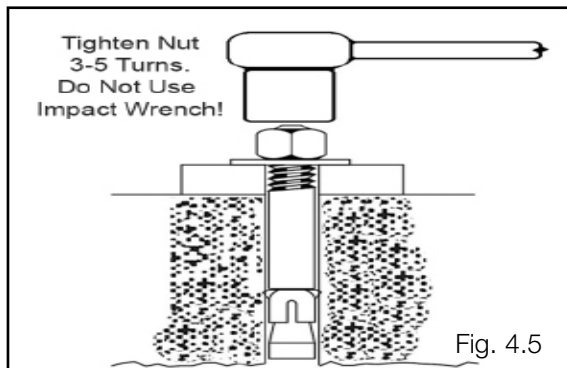

Fig. 4.5
6. After any necessary Shims are installed, tighten each anchor nut three to five turns past finger tight. (See Fig. 4.5)